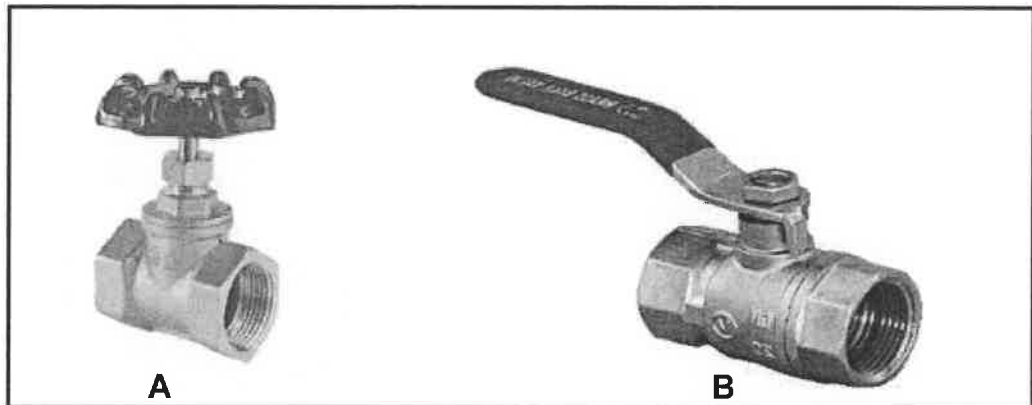

FIGURE 4.1
4.1 FIGURE 4.1 below shows TWO valves.